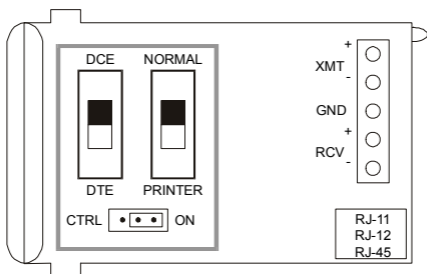
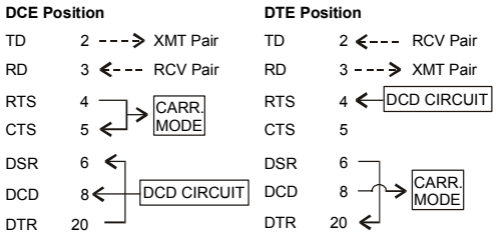

Figure 3. Switch/Jumper Locations
Figure 4. DCE/DTE Switch Configuration
2. Set the modem carrier jumper to **ON** (Constantly ON) or **CTRL** (RTS control) (see *Figure 3* and *Table 2*).
3. Set the operation mode switch to **DTE** or **DCE** (see *Figure 3*, *Figure 4*, and *Table 2*).
4. Set the Printer Support switch to **Printer** or **Normal** (see *Figure 3* and *Table 2*).